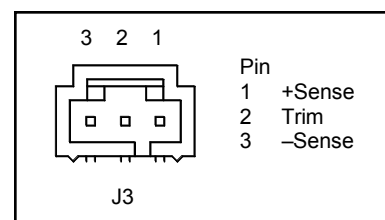

Figure 6. Single (Maxi Module) Trim Connections
- ◆ Connector pin J3-1 is the +Sense and J3-3 is the -Sense. (See Fig. 6)
- ◆ J3-2 provides Trim access. (See Fig. 6)